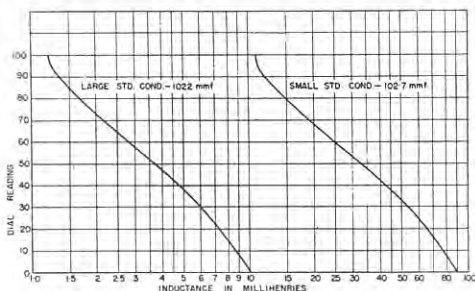

FIG 1 - EFFECTIVE INDUCTANCE vs DIAL READING BAND 1.
the curves still more useful the calculated frequencies can then be converted to dial readings (from the previously prepared frequency calibration curves) and the results drawn up as curves of Lx and Cx vs. Dial Reading for each band, and for each plug-in standard. Typical inductance and capacity curves are shown in Figs. 1 and 2 respectively. Note that the value of C in equation (2) Part I includes the output capacity of the test terminals as well as the capacity of the plug-in condenser. The inductance value obtained from Fig. 1 is the "Effective" and not the "True" inductance. Generally, but not always, the two are nearly enough equal for practical purposes. The true inductance will always be less than the effective inductance, by an amount proportional to the fraction of the total resonating capacity supplied by the distributed capacity of the coil. (e.g. If a coil has effective inductance of 1 mh. and distributed capacity of 2 mmf., and resonance is established with 100 mmf. external capacity, then the true inductance will be 100 or approximately 2% lower than the effective inductance.)